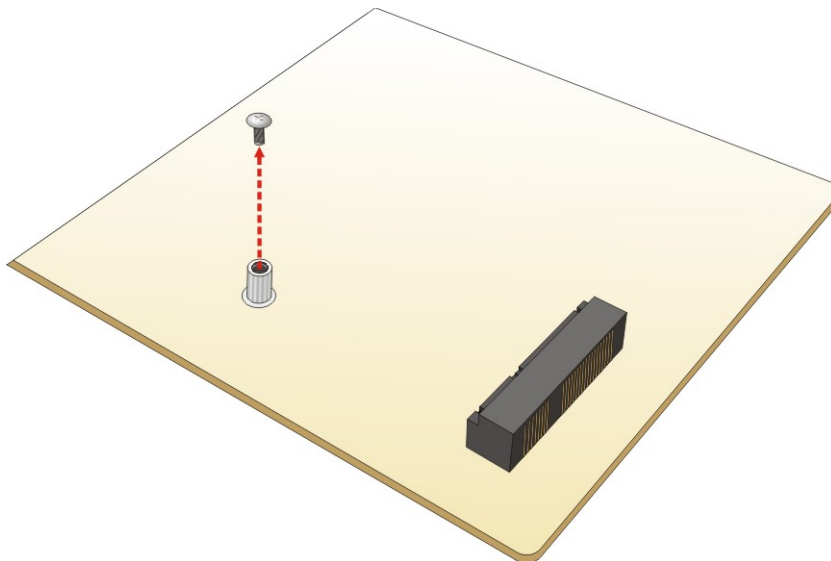

Figure 4-2: Removing the Retention Screw
Step 2: Remove the retention screw. Remove the retention screw as shown in **Figure 4-2**.